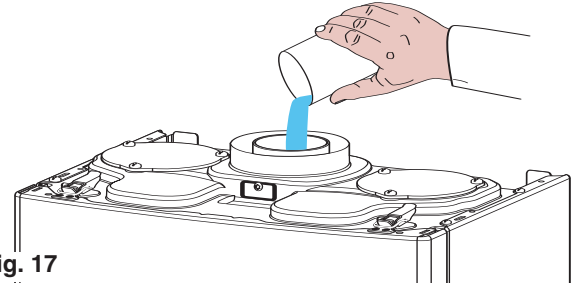

Fig. 17
**Attention ! Before starting the boiler, the trap (11 Fig. 7, page 11) must be filled with water. Before fitting the flue onto the boiler, pour 1/4 litre of water into the exhaust pipe as shown in Fig. 17 (page 19).**
**BEFORE CONNECTING THE FLUE, ENSURE THAT 1/4 LITRE OF WATER HAS BEEN POURED INTO THE EXHAUST CONNECTION TO FILL THE CONDENSATE TRAP (FIG. 17). SHOULD THE TRAP BE EMPTY THERE IS A TEMPORARY RISK OF FLUE GASSES ESCAPING INTO THE ROOM.**